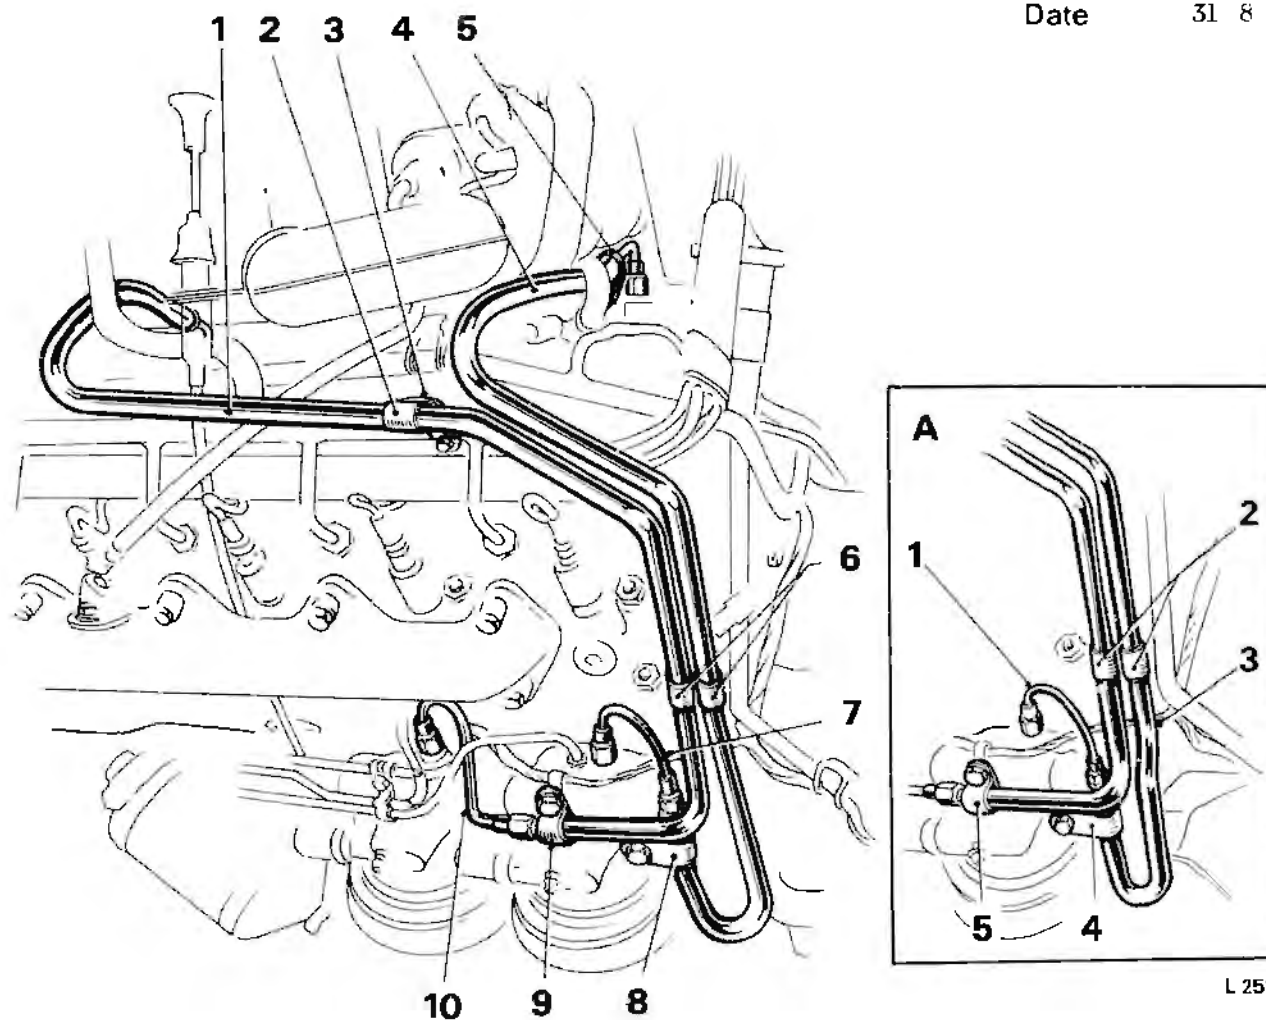
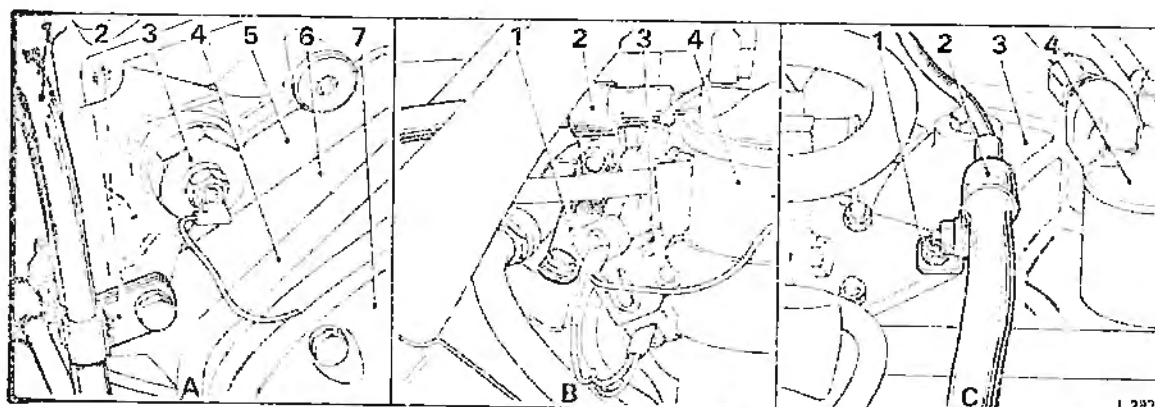

Fig. 2 Position of rigid pipes and clips.
Fig. 3 Clips and locations - Pipes - Brake pump to accumulator.
14. Fit the small bracket (UR 16863) to the upper-most clip on the pipe and fit the remaining large bracket (UR 16866) to the rocker cover securing nut, as shown in Figure 3 illustration C, and Figure 2 respectively.
18. Fit the bracket on the upper clip to the bracket on the inlet manifold as shown in Figure 3 - illustration C.
19. Fit the remaining clip (UR 16867) to the front pipe and loosely attach it to the cylinder head as shown in Figure 3 - illustration A.